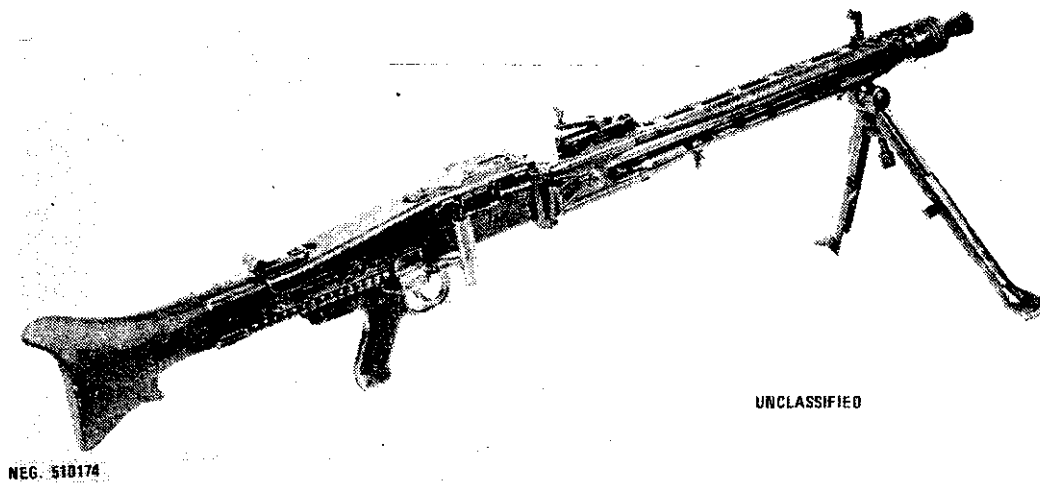

Figure 175. Old German MG 42 machinegun.
7.62x51-mm NATO cartridge, had a chrome-plated barrel bore; the MG-1A2 has several minor modifications and can be fed with either the German 50-section belt or US M13 links. The MG-1A3 also has several minor changes, most of which were made to simplify production. The latest version, the MG-3, has an antiaircraft ring sight and a device to prevent the belt from falling out of the gun when the cover is opened. The Yugoslavs also produce a copy of the original MG-42 (fig 175) in 7.92x57-mm; they call their gun the SARAC M-1953. The MG-42/59 is used by Austria, Denmark, Spain, West Germany, and Italy (the latter two countries also manufacture the gun); many smaller nations also use various versions of the MG-42.